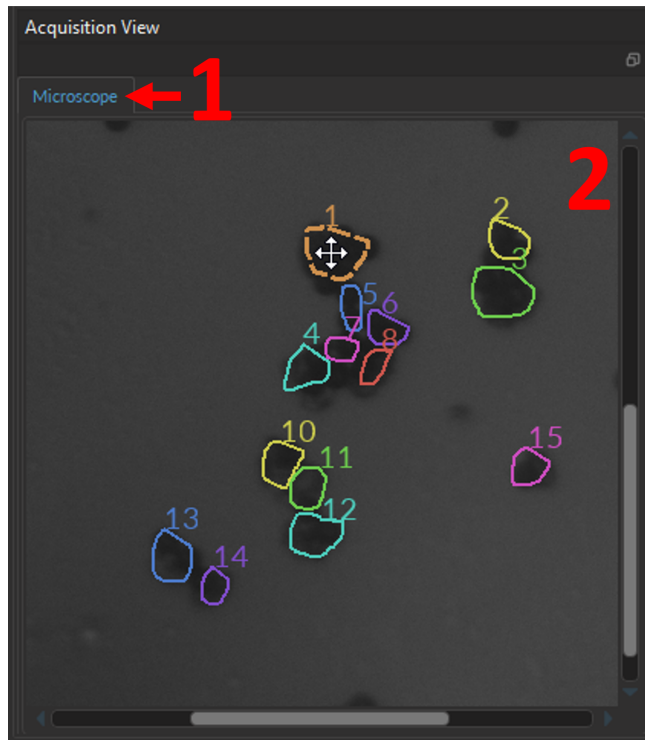

Figure 11.21: Microscope View
1. The **Sensor** tab (Fig. 11.21, 1) - Toggle between tabs (if multiple channels exist) to display the device's (microscope or camera) live images.
2. The **Microscope Feed** (Fig. 11.21, 2) - Displays the live microscope images where users can: